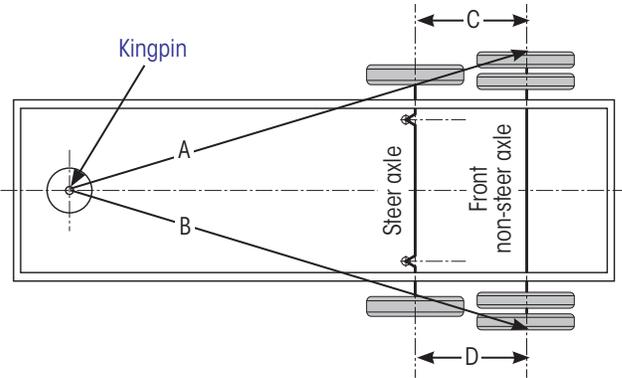

Figure 27: Self-steer axle alignment measurements
IMPORTANT: A self-steer axle must not be used as the primary front most axle for axle-axle alignment in these procedures (see Figure 27).
1. If not already done, **check and align** the front (non-steer) axle thrust angle (Figure 27, A=B) according to KINGPIN TO FRONT AXLE ALIGNMENT CHECK on page 12.
4. **Follow** AXLE-AXLE ALIGNMENT CHECK on page 15 (Figure 27, C=D) and ensure it is within specifications listed in Table 5 on page 13.